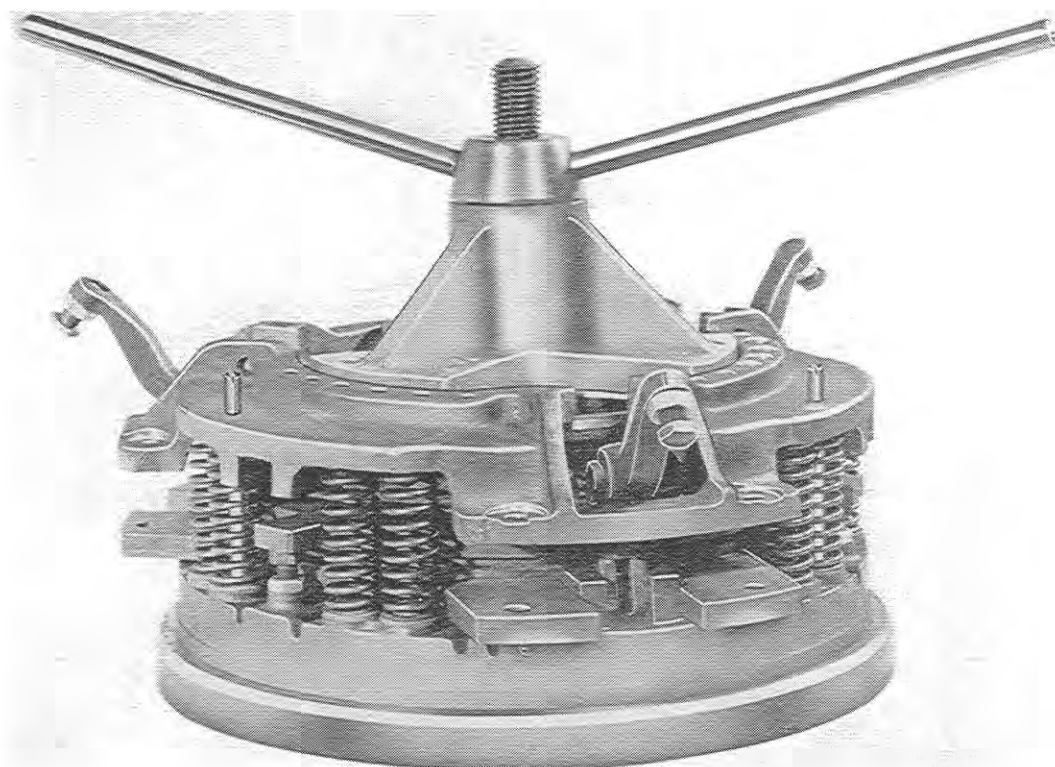

Fig. 5
- 6) Unscrew the service tool compression nut to release the pressure on the clutch springs (Fig. 5).